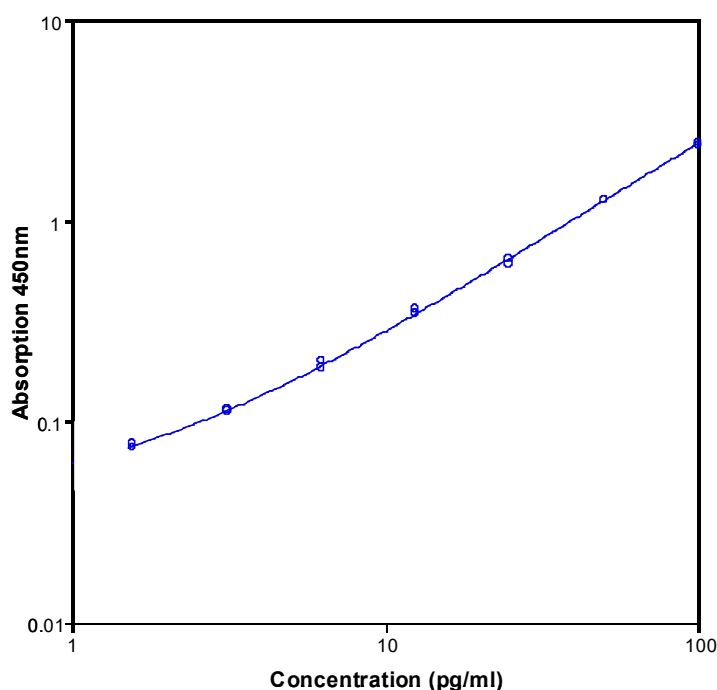

Fig. 3 Representative standard curve for Interleukin-17A (human) ELISA Kit.
- A representative standard curve is shown in Figure 3.